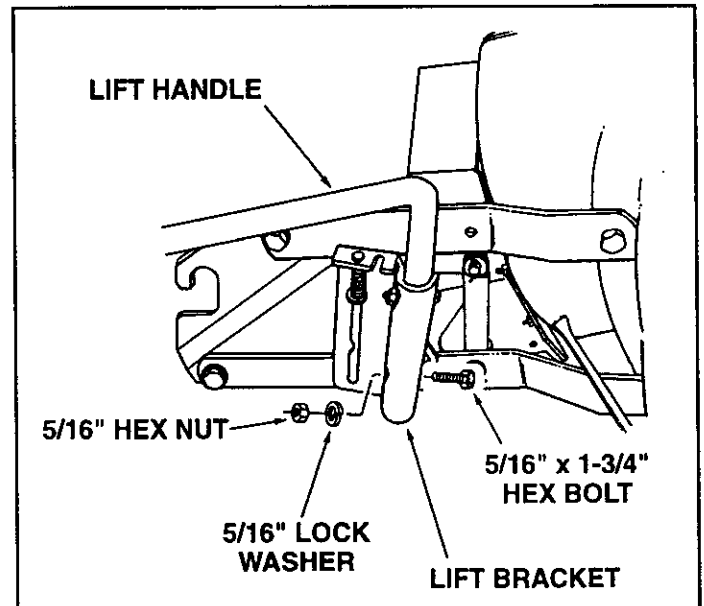

FIGURE 16 RIGHT SIDE VIEW
- Place the lift handle into the lift bracket on the right side of the snow thrower. Fasten the handle to the bracket using two 5/16" x 1-3/4" hex bolts, 5/16" lock washers and 5/16" hex nuts. See figure 16.